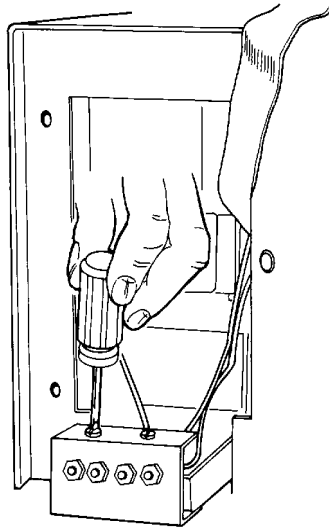

Figure 5-9 Removing Binder-head Manifold Screws
1. Loosen the two binder-head screws and star washers from above the fluid manifold (Figure 5-9).
Figure 5-9 illustrates how to remove the binder-head screws from the Manifold.